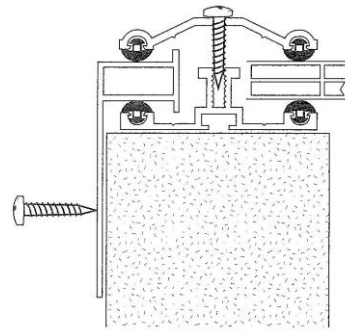

Fig. 6
Having already fitted a base bar to one end of the roof, fix a side trim (ref. 272/273/275) over the base bar to the side of the fascia or building (see Fig 6).